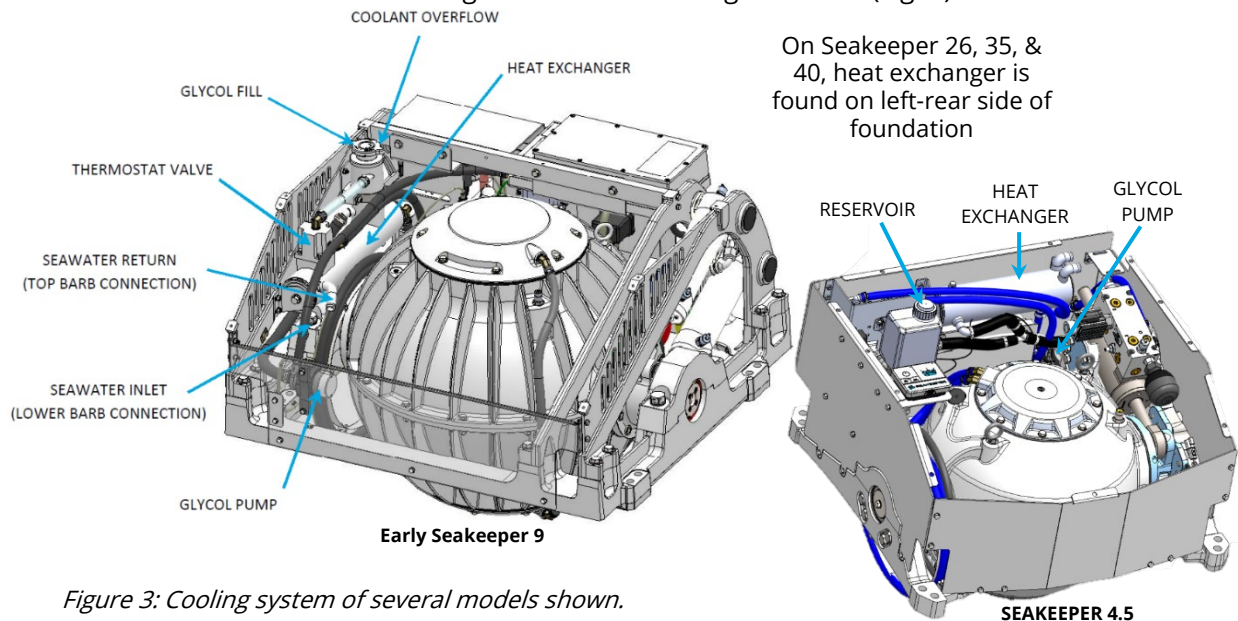

Figure 3: Cooling system of several models shown.
1. **VISUALLY INSPECT** heat exchanger and all hose fittings for leaks (Fig. 3).